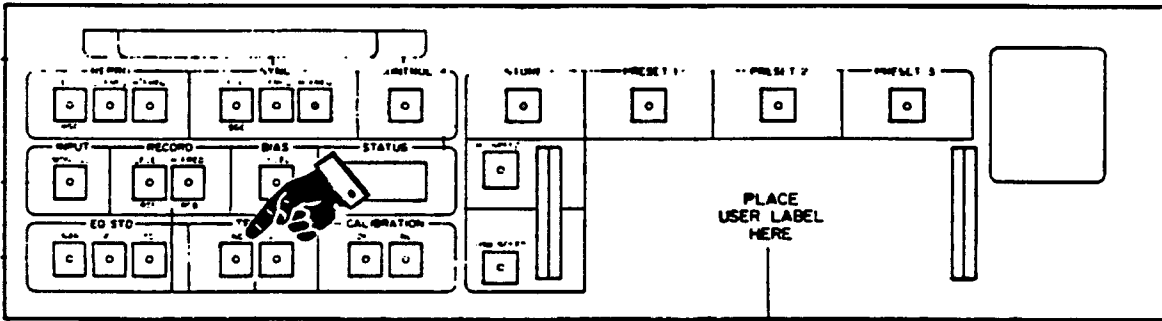

Figure 6-25. IND Key Location
STEP 6 Press the IND key once, refer to Figure 6-25. The IND key will illuminate, and a 1 will appear in the STATUS display of the ALN Panel.